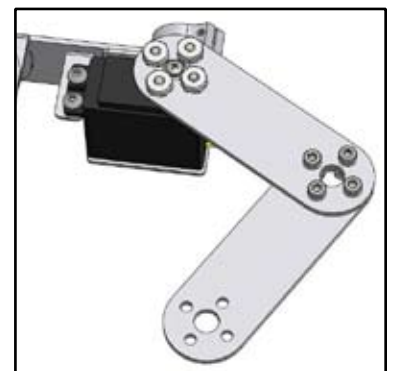

Figure D6
- 6) Check the servo's range and adjust it if necessary. Attach the horn to the servo with the servo horn screw (Figure D6).